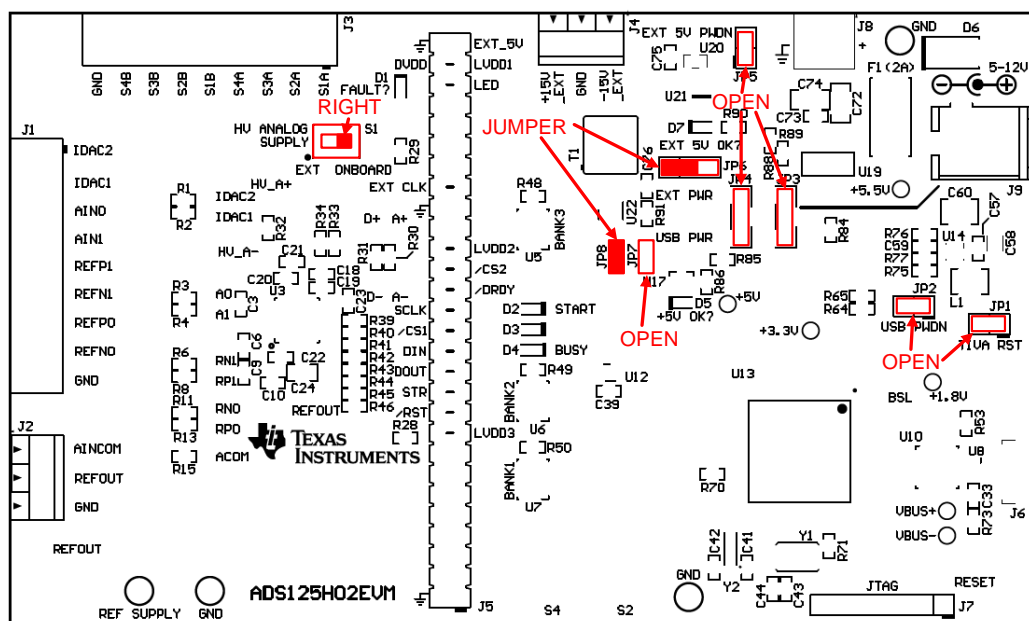

Figure 1. Default Configurations for ADS125H02 EVM
The EVM is configured with the settings listed in Table 2 and shown in Figure 1.
4. Ensure all jumpers and switches are configured in the default configuration per Table 2 and Figure 1.